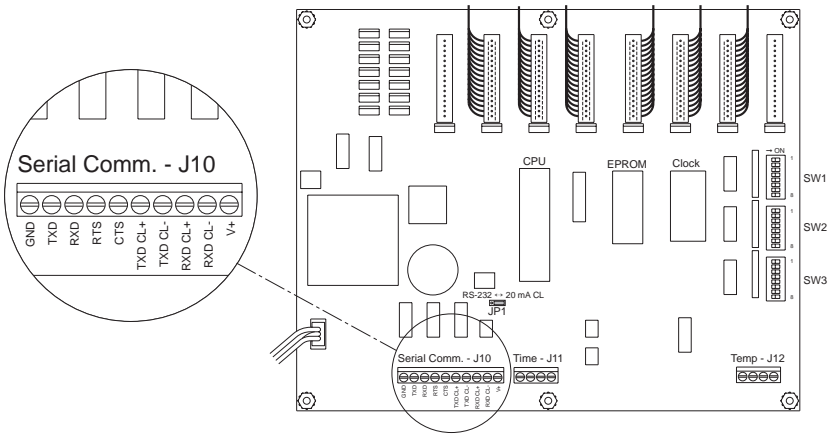

Figure 3-2. Communication Terminal Strip
6. Locate communication terminal strip (J10) on circuit board. See Figure 3-2.